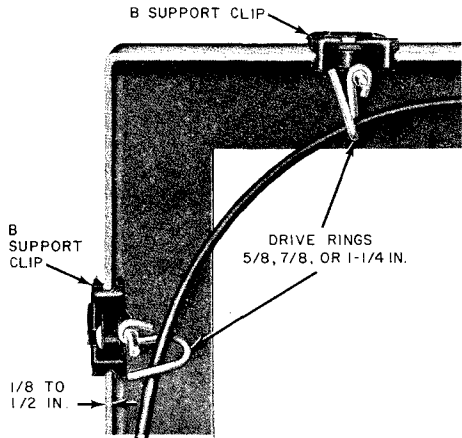

Fig. 26 — B Beam Clips
- 10.02 The B beam clip (Fig. 26) equipped with either a drive ring or the B, K, or M bridle ring is used to support wire runs on I beams, angle irons, etc, on beam thickness of 1/8 inch to 1/2 inch.